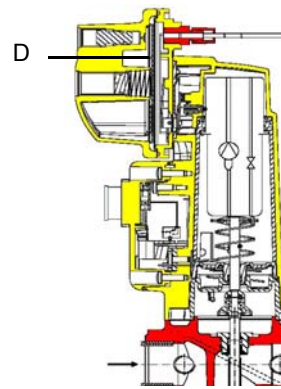

Fig. 11
**Caution:** the SKP2 diaphragm D must be vertical (see Fig. 11).